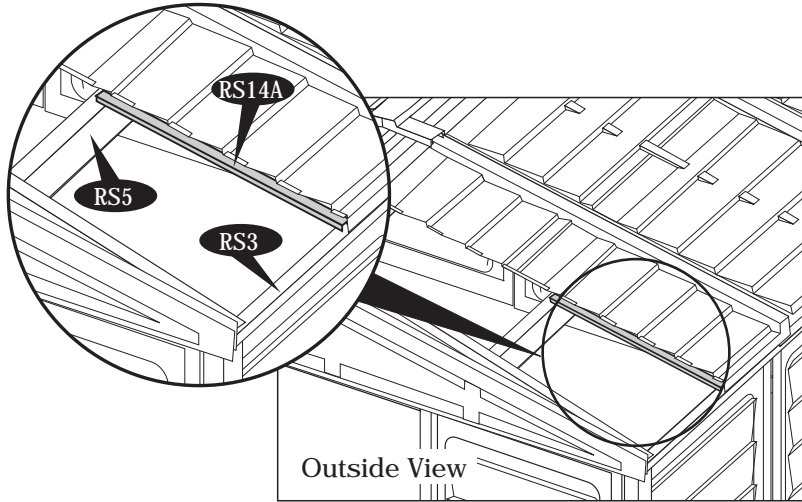

Fig. 1
7. Insert the sagging support (RS14A) from inside the shed by sliding in between roof structure (RS5) and roof panel until it reaches (RS3) roof structure for each panel. See fig.1.
1. Place the ventilation cover (VC) as shown in fig.1. Using a pencil, mark the two side hole locations.